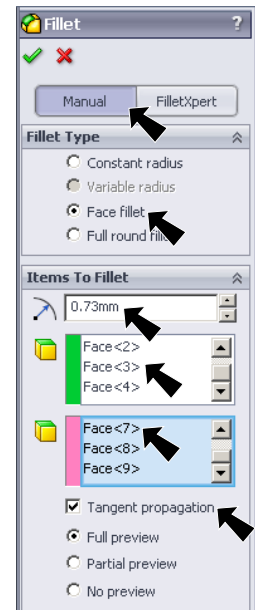

Fig. 39
Step 3. In the Fillet Property Manager, select **Manual**, **Fig. 39** under Fillet Type select **Face fillet**
click in the **Face Set 2**  box, **Fig. 39**